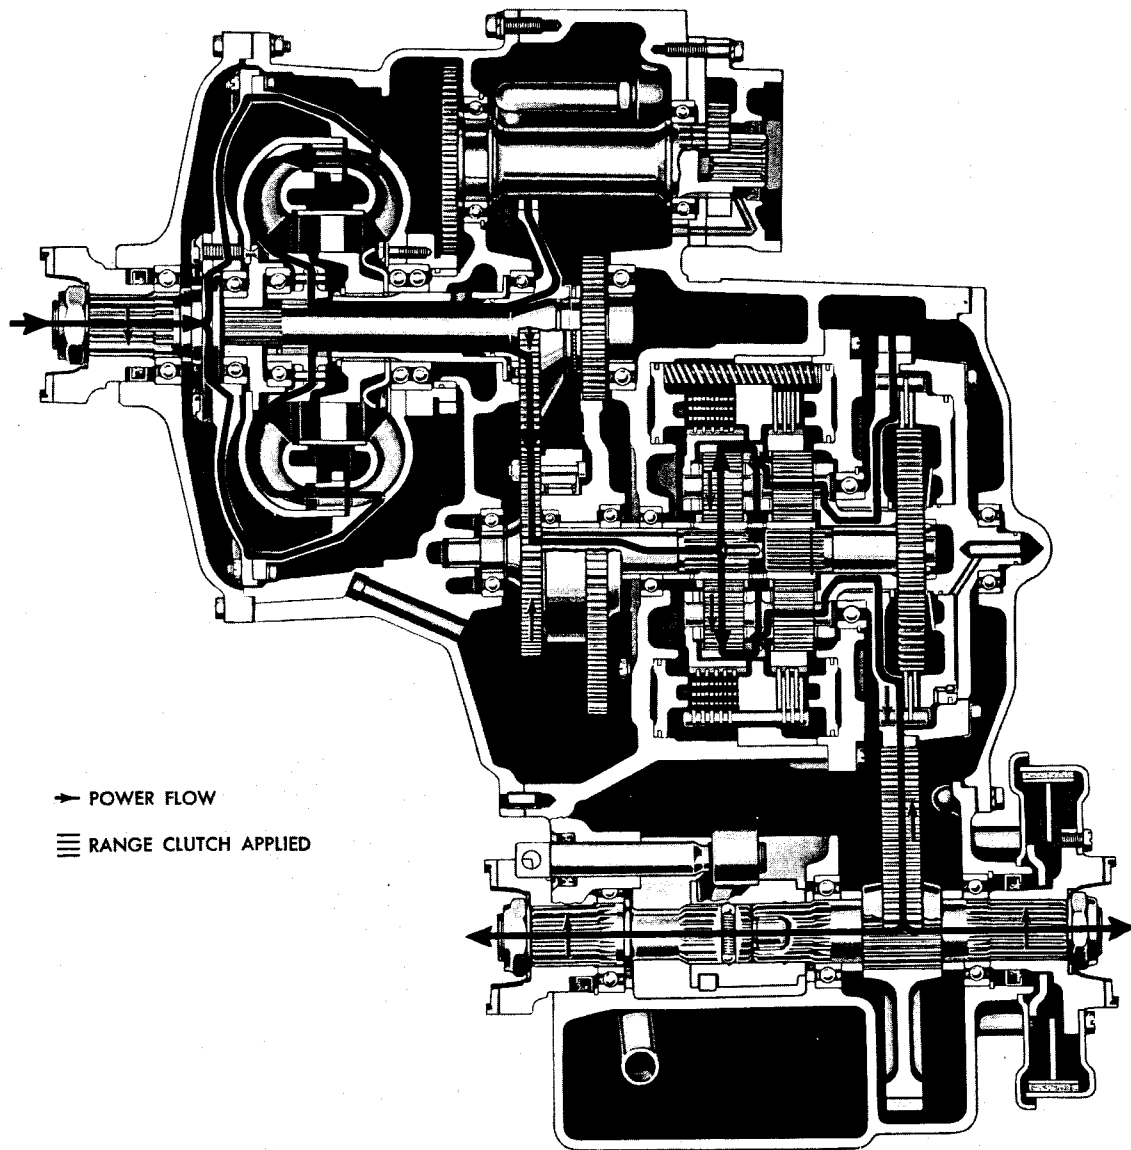

Fig. II-12. Reverse, second turbine—torque path
a. Fig. II-12 illustrates the transmission torque path in reverse range under lighter loads or at higher speeds. The transmission